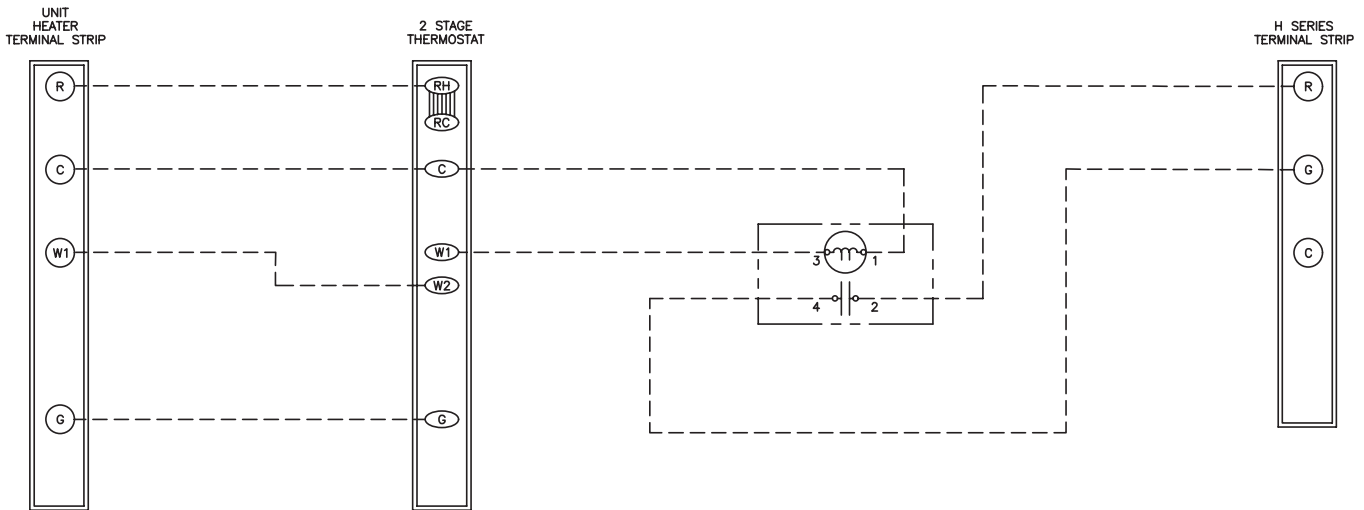

Figure 19. Heater and Destratification Fan Wiring Diagram
- If the installation features a heater and an H series Huracan™ destratification fan controlled by a single two-stage thermostat, ensure that the wiring is in accordance with the wiring diagram shown in Figure 19.